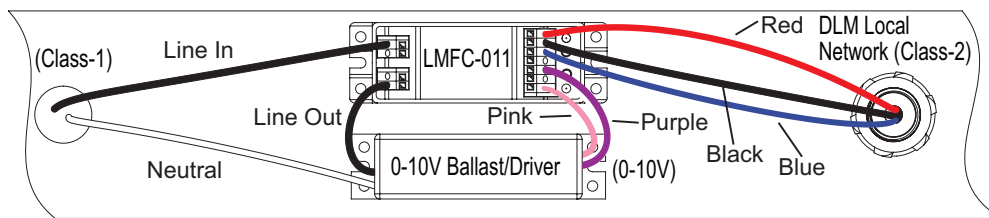

Figure 5. LMFC-011 Wiring Diagram
5. Connect the DLM Local Network adapter wires to the LMFC-011 as shown in the wiring diagram (Figure 5).